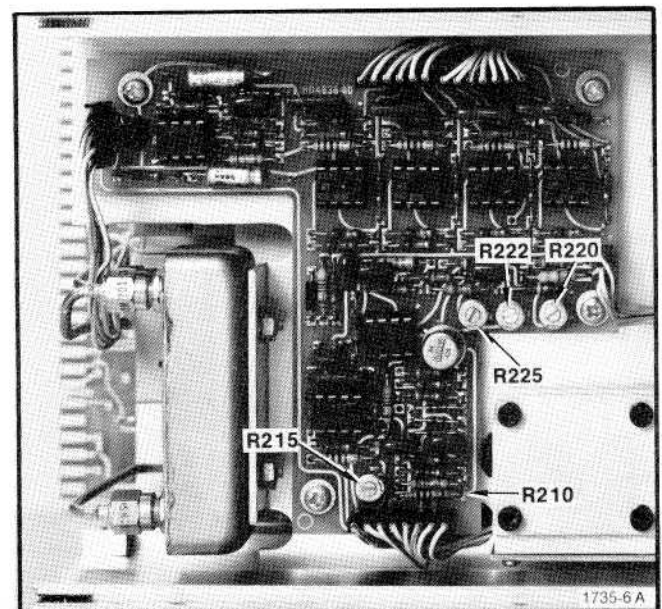

Fig. 4-3. Location of Signal Level Normalization Adjustment R215, and Output Level Calibration Adjustments R225, R220, R222.
b. Adjust the Signal Level Normalization with R215 for 1.5 V drop across R210 (Fig. 4-3).
c. Set the VAR dB control to -2 and adjust the Min Output Level with R225 (Fig. 4-3) for -2 dBm output level.
d. Set the VAR dB control to 0 and adjust the Max Output Level with R220 (Fig. 4-3) for 0 dBm.
e. Set the VAR dB control to -1 and adjust the VAR dB Linearity with R222 (Fig. 4-3) for -1 dBm.